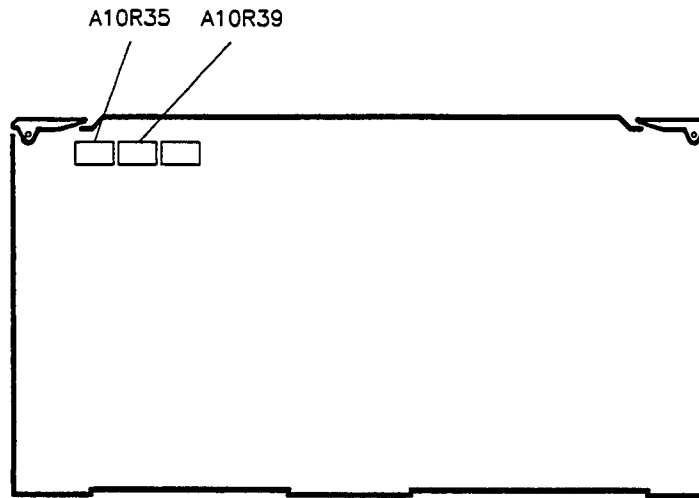

Figure 3-32. A10R35 and A10R39 Locations
15. Adjust A10R35, EXP AM CAL, for a  $-10$  dB power meter reading. See figure 3-32 for the location of A10R35.
21. Adjust A10R39, LIN AM CAL, for a 0.126 mW (4.00% relative) reading. See figure 3-32 for the location of A10R39.